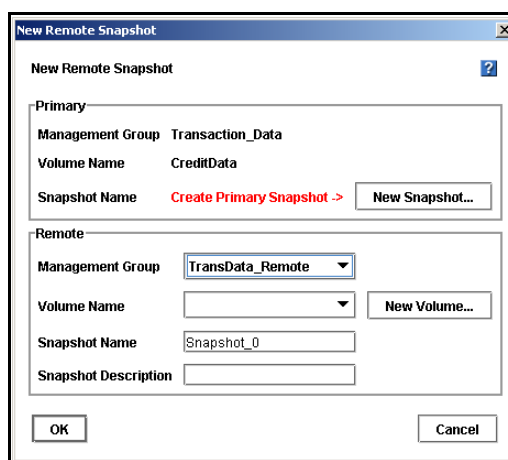

Figure 233. Creating a New Remote Snapshot
3. Right-click the primary volume and select Remote Copy > New Remote Snapshot. The New Remote Snapshot window opens, shown in Figure 233.
When you create the remote snapshot, use the Remote Snapshot window, shown in Figure 233, to create the volume. Alternately, you can create a new volume from the cluster details panel and select the Remote option in the New Volume Window.